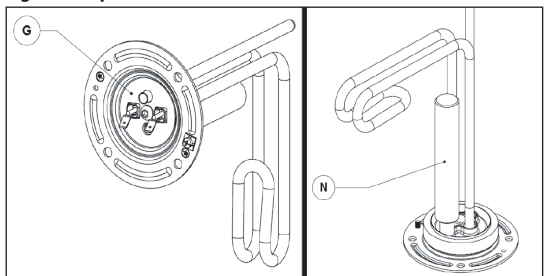

Figure 8 - Heating Element and Anode Rod Detail
The purpose of the anode rod (Figure 8, N) is to protect the tank against corrosion. The anode rod must be inspected once a year to determine whether it requires replacement.
4. Remove and replace the anode rod (Figure 8, N).